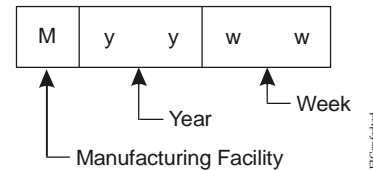

Figure 1: Manufacturing Date Code
- **manufacturing date code** of the valve (as illustrated in Figure 1)